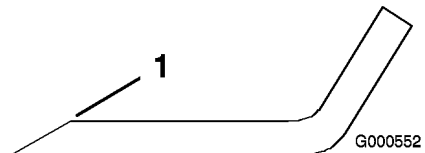

Figure 40
1. Use a file to sharpen the cutting edge at both ends of the blade (Figure 40). Maintain the original angle. The blade retains its balance if the same amount of material is removed from both cutting edges.